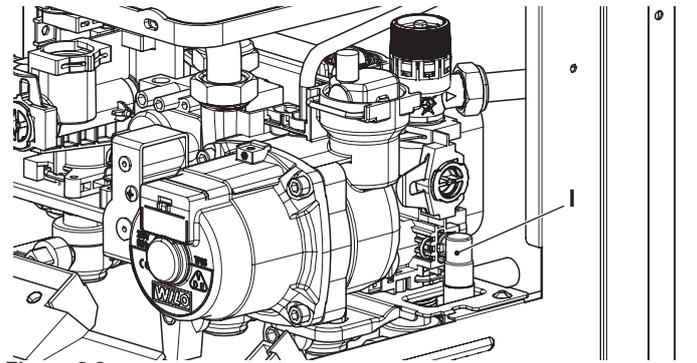
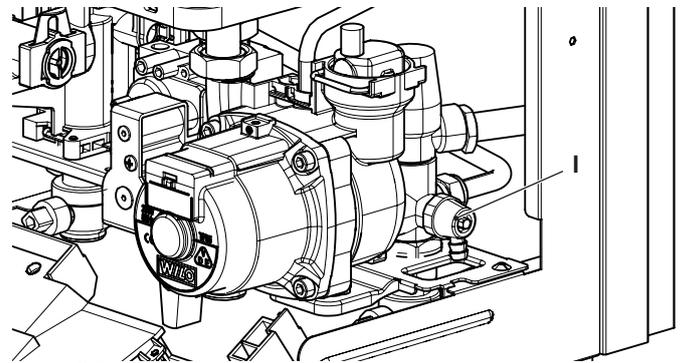

Figure 2.8
Figure 2.9
- 3 Open the drain tap I (Figure 2.8 combi or Figure 2.9 only c.h.) until the boiler is completely emptied.